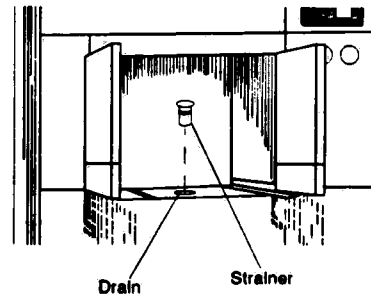

Figure 2-7. CLEAN CHAMBER DRAIN STRAINER
- Remove chamber drain strainer (See Fig. 2-7). Clean out lint and sediment and reverse flush under running water.